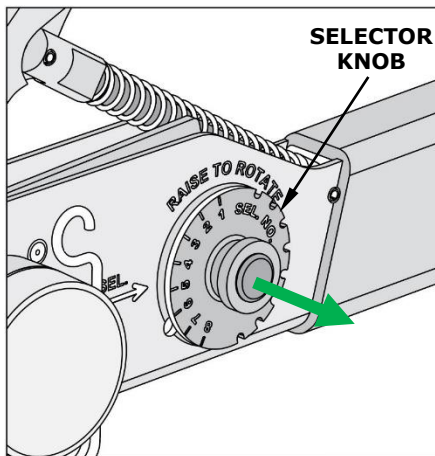

Figure 2
5. Pull the selector knob and rotate until the selector number is in line with "SEL NO." index mark. See Figures 2 and 3.